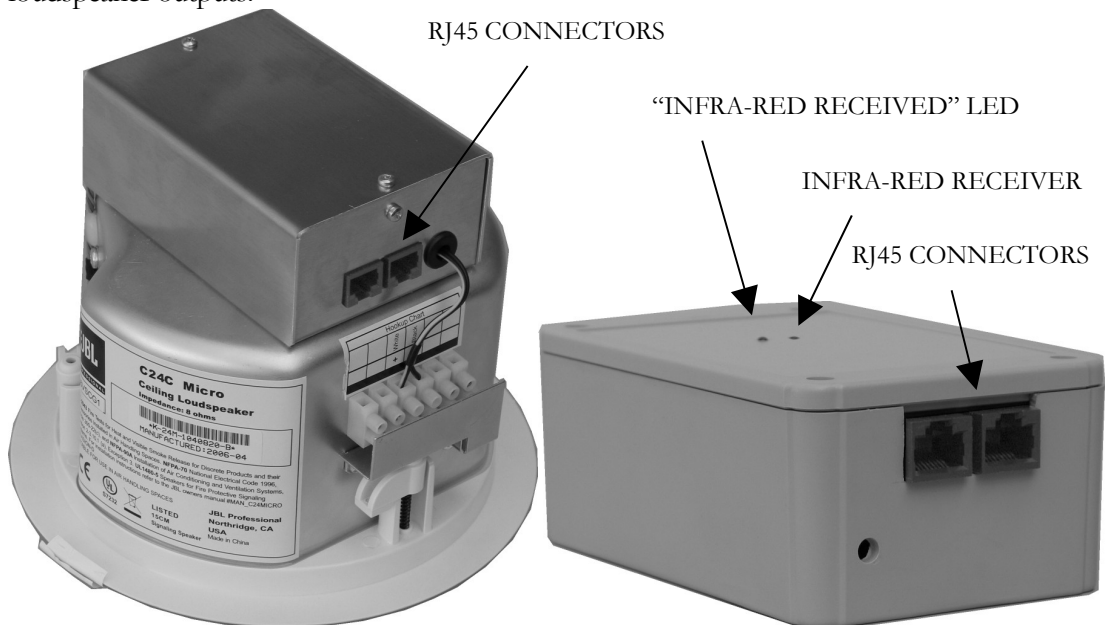

Figure 1: A loudspeaker with integrated electronics (Left), and a wall box, required for speakers without integrated electronics (Right).
The GS-LSA-001 can identify up to 8 different types of loudspeaker. This identification is made possible by an ID code sent from the speaker through the RJ45 (CAT-5) cable. The ID information is used to set the equalisation settings for the speaker, ensuring best possible performance. The speakers will normally have two RJ45 (CAT-5) connectors, as shown in the example in Figure 1 (Left). For some types of speakers, these connectors may be housed in a separate wall box, Figure 1 (Right). Either of these connectors can be used to connect the speaker to the main unit. The other connector can be used to connect a second speaker in parallel with the first. When doing this, the following points should be noted:
3. The RJ45 (CAT-5) cable associated with the speaker should be connected to either of the two connectors on the back of the speaker or wall box. Refer to Figure 1.
- The first speaker will always use the first outlet ie 17/18 outlet 17 (IN) will be used.